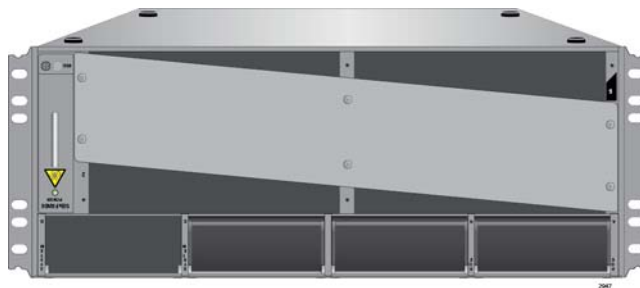

Figure 36. Turning the Chassis Upside Down
1. Place the unit upside down on a level, secure surface, as shown in Figure 36.